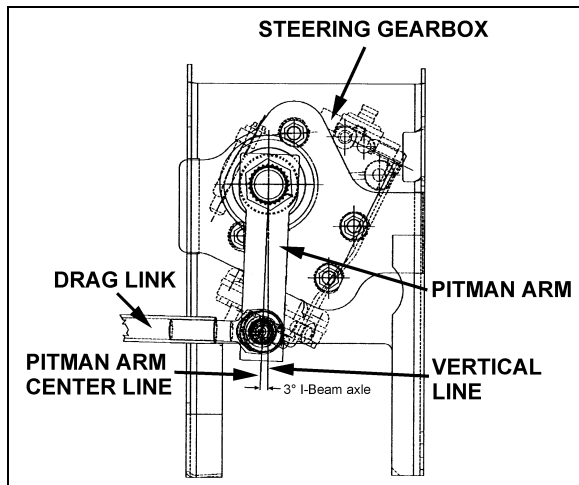

FIGURE 16: PITMAN ARM ADJUSTMENT 14052
2. Using a protractor, check the angle of the pitman arm (refer to Figure 16 for details).